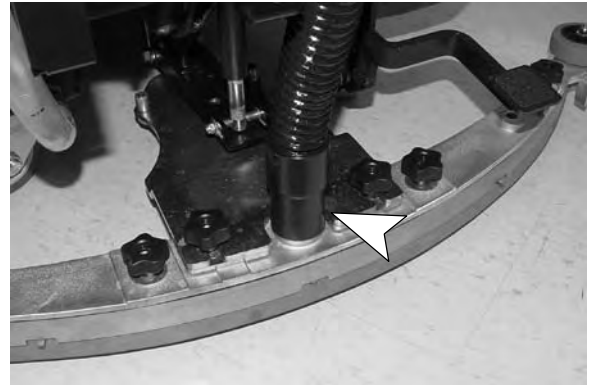

FIG. 6
5. Connect the vacuum hose from the machine to the squeegee assembly (Figure 6).